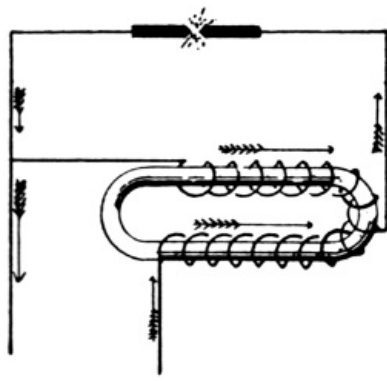

FIGURE 137.
*Auto-transformer Control.*—The auto-transformer is a special type of transformer used to obtain reduced voltage and increased current. Its principle may be gathered from Figure 137. There is an iron core and two coils of wire as in ordinary transformers but the two coils are connected in series, as shown in the figure. It will also be noted that the arc is connected directly across one of the coils. The lower portion of the winding or coil is traversed by the alternating current from the mains at all times and this current also passes through the arc lamp when the circuit through it is closed. The current passing through the lower coil and the arc induces a current in the upper portion of the winding and these two currents then pass in parallel through the lamp.